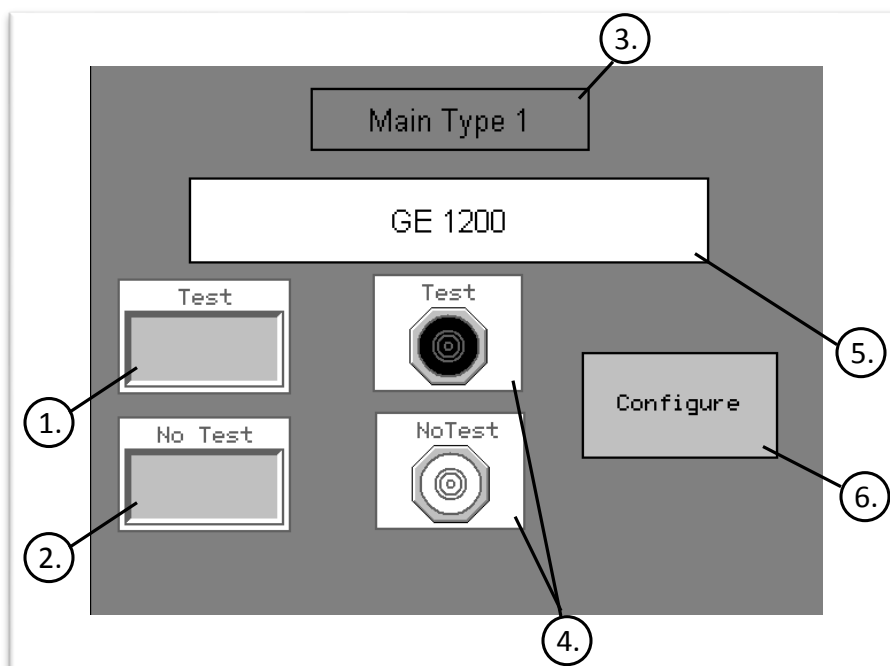

Figure 21: Unit Setup test options
1. **Test** – When pressed, the Test button highlights the Test Selection Indicator (as shown in Figure 21 for example) allowing configurations in the Test position; Some switchgear have a mandatory hard stop for test position; these breaker styles require this mode of operation
4. **Test/No Test Selection Indicators** – The two indicators shown in Figure 21 allow the operator a quick and easy way of knowing which of the Test and No Test options are selected; In Figure 21, the Test indicator is highlighted signaling that the Test operation is selected
5. **GE 1200** – The name of the selected breaker is displayed here; in Figure 21, the selected breaker for data modifications is GE 1200
6. **Configure** – Navigates the operator to data modification options pertaining to operator's selection of Test/No Test; in Figure 21, the operator would be modifying data related to the Test position